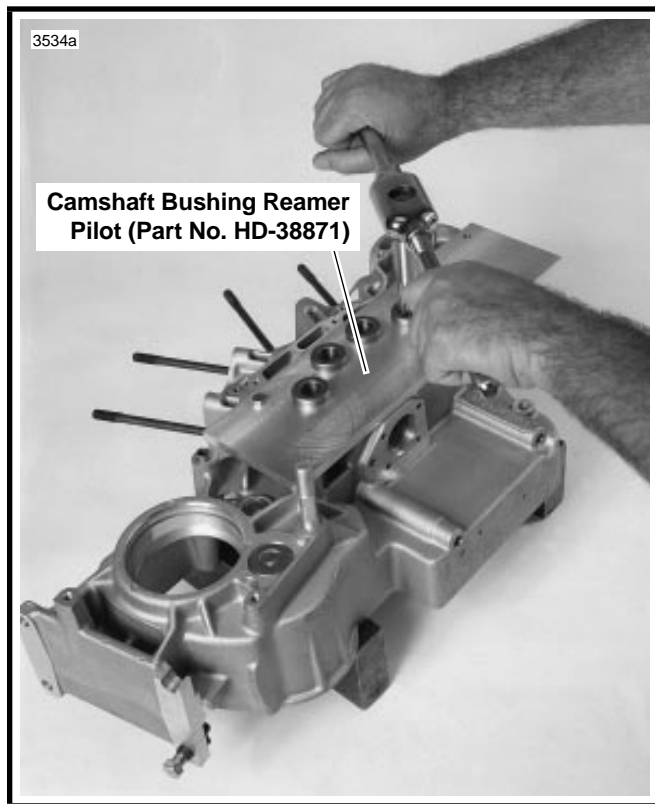

Figure 3-59. Reaming Cam Gear Bushing in Right Crankcase Half
2. See Figure 3-59. Position CAMSHAFT BUSHING REAMER PILOT \(Part No. HD-38871\) onto gearcase side of crankcase half; upper right and lower left indexing holes in pilot must be placed over dowels in crankcase half. Insert two bolts (supplied with pilot) through two remaining holes in pilot, and into threaded holes of crankcase half. Tighten bolts securely.